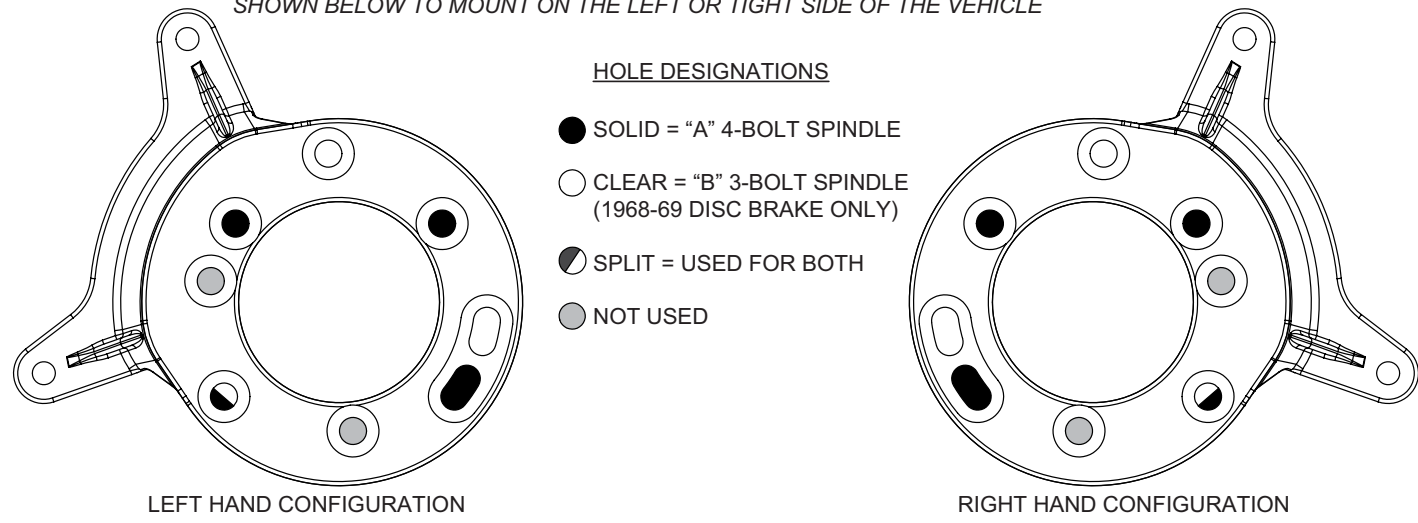
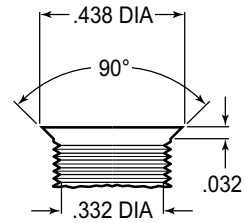
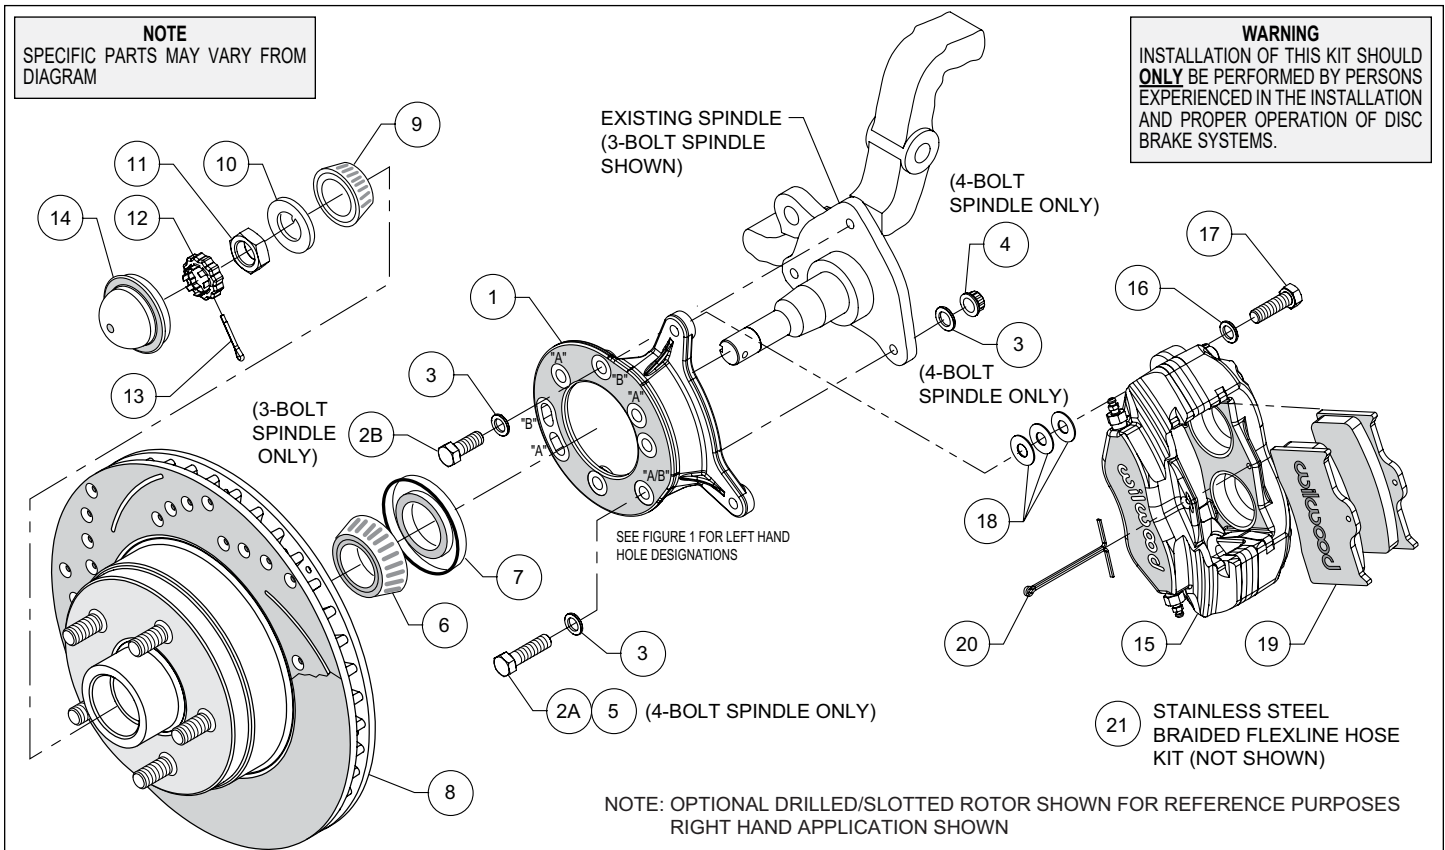

Figure 1. Wilwood Caliper Mounting Bracket
Figure 2. Drill and Tap Detail
Figure 4. Typical Installation Configuration
This kit has been designed for use with both three and four bolt spindle configurations. The only difference is in how the Wilwood caliper mounting bracket is installed. The same bracket is used for both configurations; only the 1968-69 disc brake spindle utilizes three mounting holes while all other spindles use the four mounting holes (see Figure 1). For your convenience we have supplied bolt kits for both applications (see parts list and Figure 4 as necessary). Use the bolt kit that is applicable to your vehicle and disregard the other one.
**NOTE:** This modification should be performed by a qualified machinist and completed before assembly of the Wilwood disc brake kit begins. Using the caliper mounting bracket as a template (refer to Figure 1 as necessary), locate and verify the three original holes on the spindle that need to be modified. Drill a .332" diameter hole through all three holes, then tap 3/8-24 UNF (fine thread). Countersink the holes to .438" diameter x 90°, as shown in Figure 2.
**NOTE:** Numbers in parenthesis refer to the parts list and Figure 4 on the preceding pages.
•**NOTE:** This kit uses the same mounting bracket (1) for both the three and four bolt brake spindles. The 4-bolt version, Photo 1, uses four mounting bolts (designated "A"), while the 3-bolt version, Photo 2, uses three (designated "B"). Refer to Figures 1 and 4 for the basic installation position of the bracket and the "A" and "B" reference designations (not physically marked on the brackets).
**For 4-Bolt Spindle:** Align bracket, using the four "A" holes, to the face of the spindle and attach using bolts (2A and 5), washers (3), and lock nuts (4), as shown in Figure 4 and Photo 1. Torque lock nuts to 30 ft-lb.
**For 3-Bolt Spindle (1968-69 Disc Brake):** Align bracket, using the three "B" holes, to the face of the spindle and attach using bolts (2B) and washers (3), as shown in Figure 4 and Photo 2. Finger tighten. Remove bolts one at a time, apply red *Loctite*® 271 to threads, and torque to 40 ft-lb.
•Press the dust cap (14) into hub (8), Photo 5.
•Mount the caliper (15) onto the caliper mounting bracket (1) using bolts (17) and washers (16), as shown in Figure 4. Initially place three .035" thick shims (18) on each bolt between the caliper and the bracket, Photo 6. Temporarily tighten the mounting bolts and view the rotor (8) through the top opening of the caliper. The rotor should be centered in the caliper, Photo 7. If not, adjust by adding or subtracting shims between the bracket and the caliper. Always use the same amount of shims on each of the two mounting bolts. Once the caliper alignment is correct, remove the bolts one at a time, apply red *Loctite*® 271 to bolt threads, and torque to 40 ft-lb.